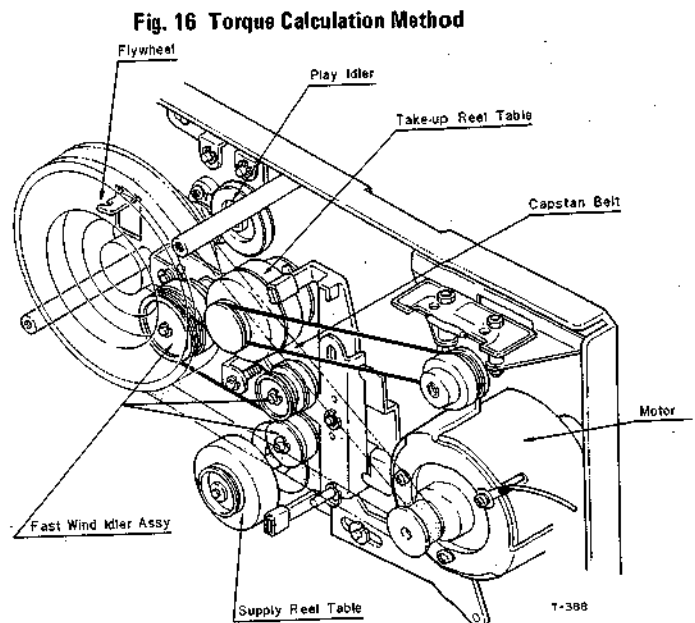

Fig. 17 Tape Drive System
8. If the reading is out of specified range, clean the driving surfaces of the Reel Table Assy, the Play Idler and the Flywheel with the TEAC TZ-261B Rubber Cleaner or with pure alcohol (Fig. 17)
6. If the indication is out of specified range, clean the driving surfaces of the Reel Table Assy, the Fast Wind Idler Assy and the Flywheel with the TEAC TZ-261B Rubber Cleaner or with pure alcohol. (Fig. 17)